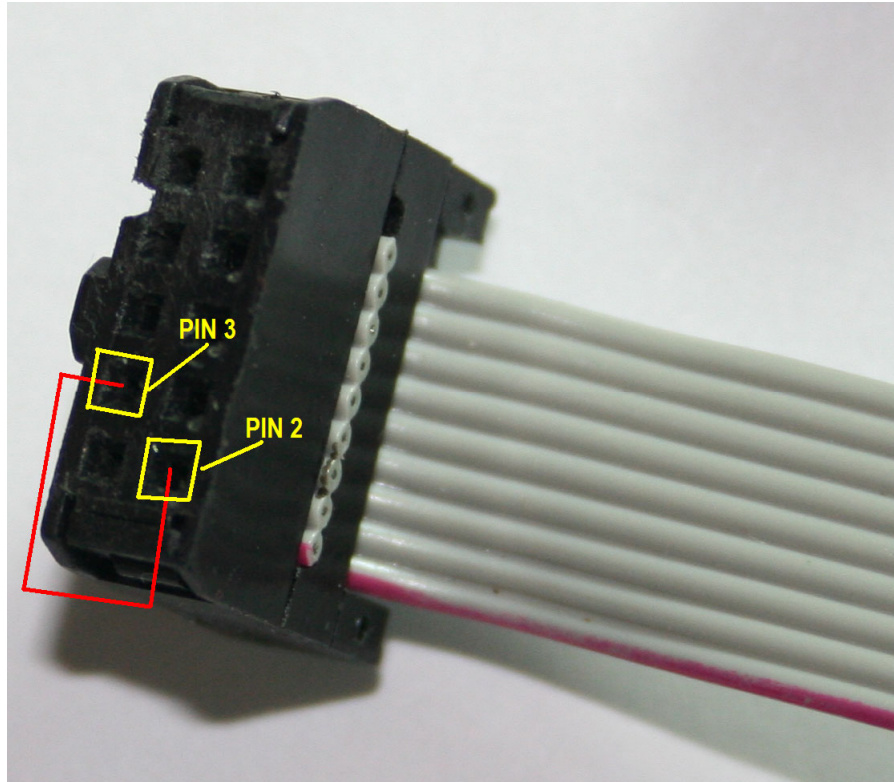

Figure 83. Serial Cable Loopback
1. Connect a wire across the TX and RX leads (Pins 2 and Pins 3) of the cable that plugs into the BeagleBoard (IDC Cable). **Figure 83** shows how this is done.